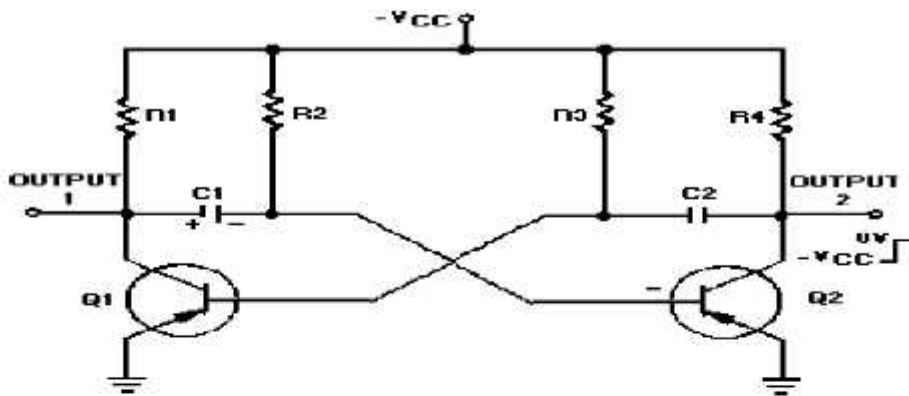

Figure 3-5.—Astable multivibrator.
- Let's analyze what is happening. The right-hand side of capacitor C1 is becoming increasingly negative. If the base of Q2 becomes sufficiently negative, Q2 will conduct. After a certain period of time, the base of Q2 will become sufficiently negative to cause Q2 to change states from cutoff to conduction. The time necessary for Q2 to become saturated is determined by the time constant $R2C1$. The next state is shown in figure 3-5. The negative voltage accumulated on the right side on capacitor C1 has caused Q2 to conduct. Now the following sequence of events takes place almost instantaneously. Q2 starts conducting and quickly saturates, and the voltage at output 2 changes from approximately $-VCC$ to approximately 0 volts. This change in voltage is coupled through C2 to the base of Q1, forcing Q1 to cutoff. Now Q1 is in cutoff and Q2 is in saturation.